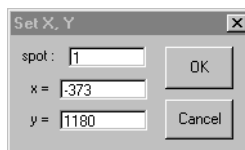

Figure 6-21 Set X,Y Dialog Box
1. Click **Menu**, then select **X,Y**. The Set X,Y dialog box is displayed (Figure 6-21).